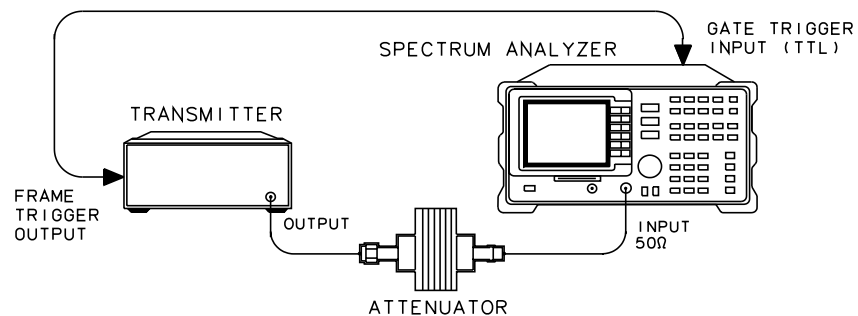

Figure 37 Test Setup for Phase and Frequency Error
- 3 Refer to Figure 37 on page 81 for the test setup.